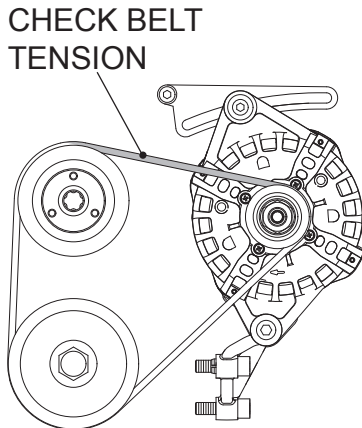

Figure 34. V-Belt Tensioning
1. Check the tension of the poly V-belt and tighten as needed (Figure 34).